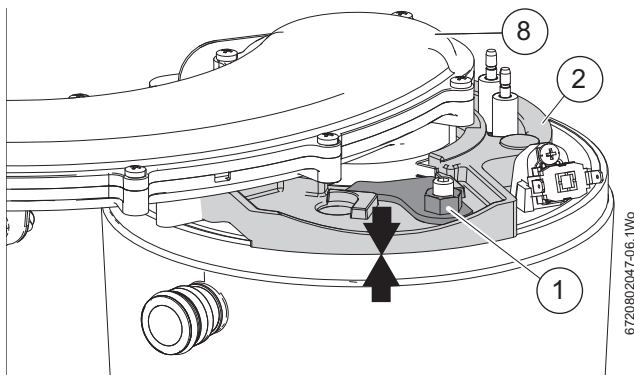

Fig. 83 Clamping plate secured
- ▶ Tighten the nut on the retaining plate assembly [1] until the underside face of the clamping plate mates with the top of the heat exchanger as indicated by the two arrows in figure 83